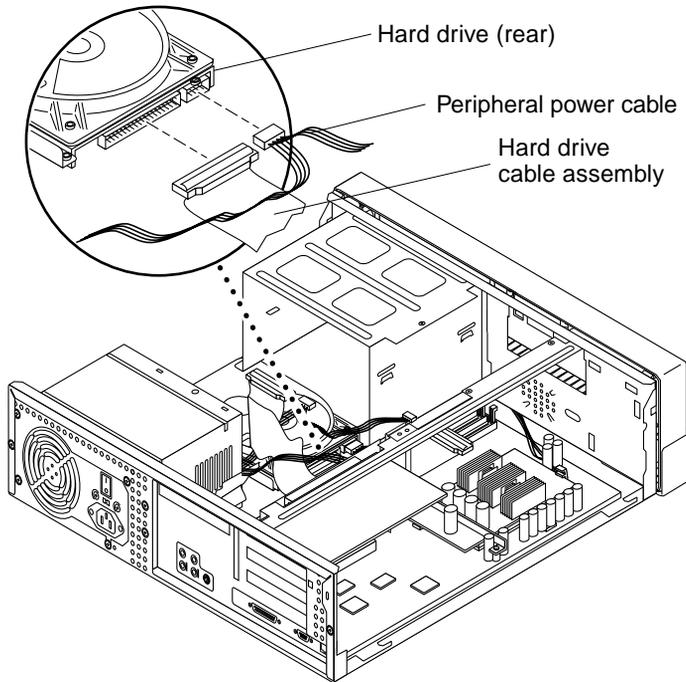
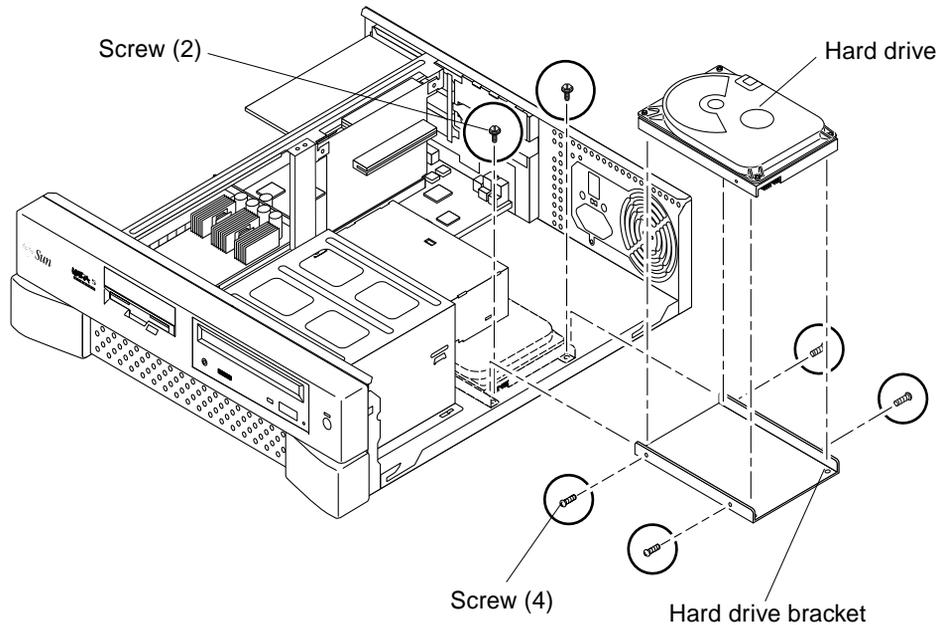

FIGURE 9-4 Removing and Replacing a Hard Drive (Ultra 5)
FIGURE 9-5 Removing and Replacing a Hard Drive (Ultra 5)
5. Remove the hard drive from the Ultra 5 as follows (FIGURE 9-4 and FIGURE 9-5):
2. **Replace the hard drive into the Ultra 5 as follows (FIGURE 9-4 and FIGURE 9-5):**